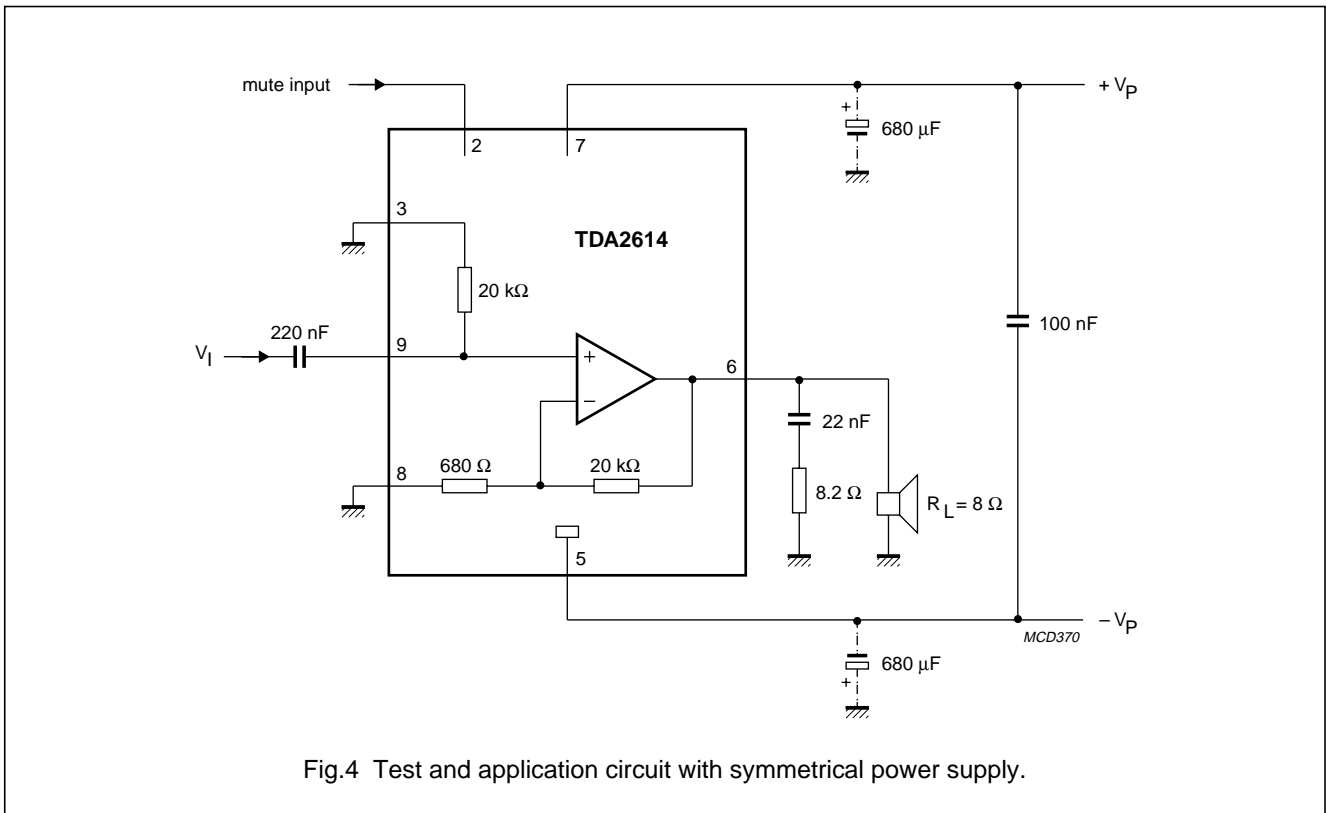

Fig.4 Test and application circuit with symmetrical power supply.
- $\pm V_P = 12\text{ V}$; $R_L = 8\ \Omega$; $T_{amb} = 25\ ^\circ\text{C}$; $f = 1\text{ kHz}$; symmetrical power supply $I_{MUTE} < 30\ \mu\text{A}$. See Fig.4